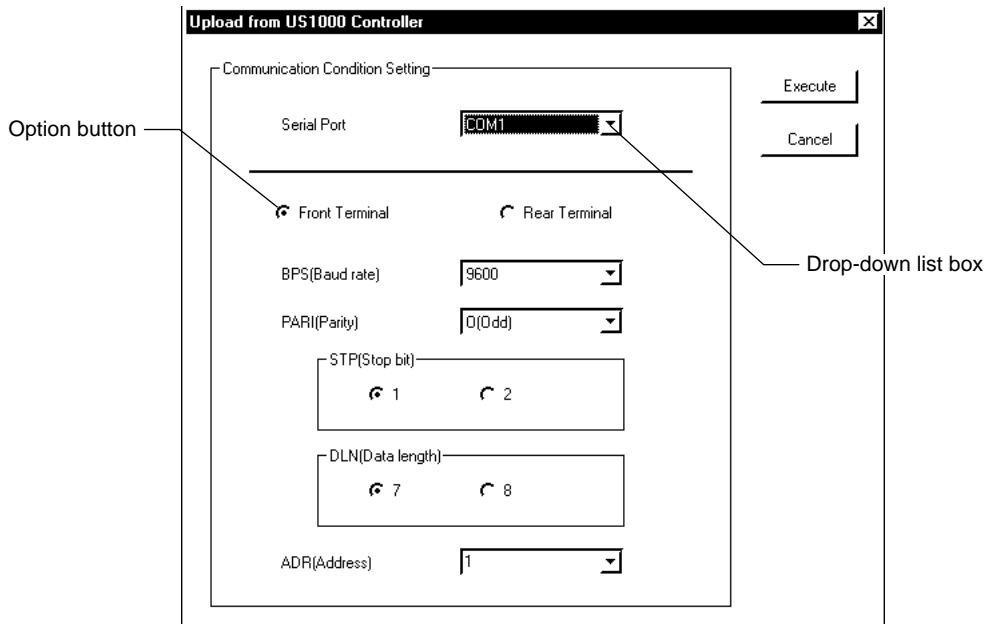

Figure 8.1.1 [Upload from US1000 Controller] Dialog Box
- ① From the tool menus, choose <Communication>, then <Upload from US1000 Controller...>. The [Upload from US1000 Controller] dialog box (Figure 8.1.1) appears.
- ③ From the <Serial Port> drop-down list box, select a communication port of the personal computer.
- ④ Click the <Execute> button.
- ① From the tool menus, choose <Communication>, then <Upload from US1000 Controller...>. The [Upload from US1000 Controller] dialog box appears.
- ③ From the <Serial Port> drop-down list box, select a communication port of the personal computer. Then, from the <Baud rate>, <Parity> and <Address> drop-down list boxes, choose the options of the three communication conditions, the baud rate, parity and address. Also choose the options of the two communication conditions, the stop bit and data length, by clicking the appropriate option buttons in the <Stop bit> and <Data length> sections.